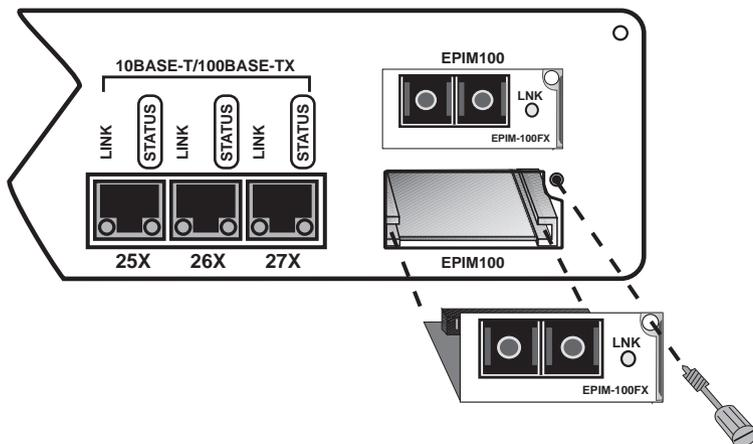

Figure 2-2. Installing an EPIM
2. Install the EPIM as shown in Figure 2-2. Ensure that the rear connector is seated firmly by tightening the screw mounted to the EPIM.